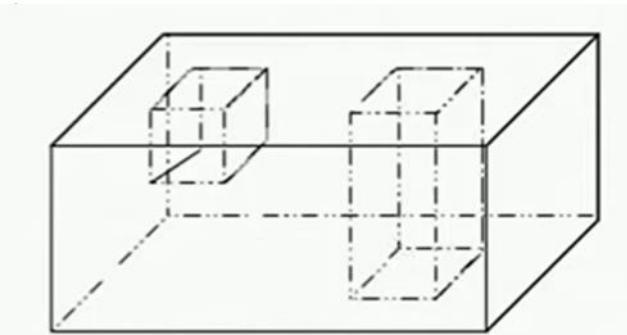

Fig. 1
b) Verify Euler equation for solid shown in Fig. 1. **06**